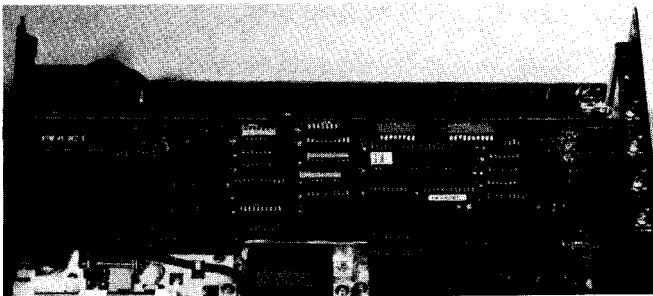

Figure 7
- 3) Insert the **TWINPORT** board into the mating motherboard socket. Push the board firmly into place (Figure 7).